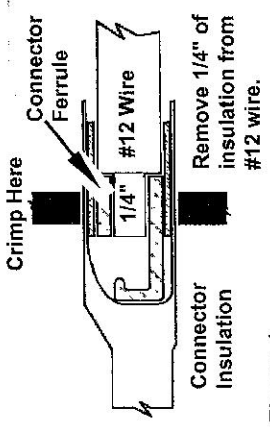
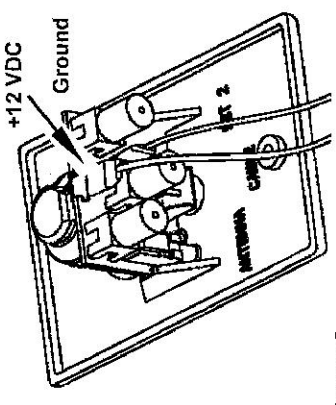
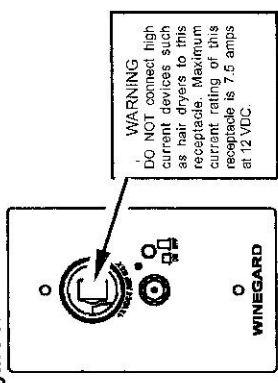

Figure 1
Figure 2
Figure 3
STEP 3. Make +12 volt connection to wall plate/power supply Figure 2. Install terminals on wires from +12VDC source as shown in Figure 1. Crimp terminals with Craftsman type 4 crimping tool or equivalent. Push wires onto tabs on terminal board as shown in Figure 2. If in doubt as to the polarity of the wires, connect them temporarily to tabs on circuit board and press switch on front of outlet. If light comes on, polarity is correct. See Figure 3.